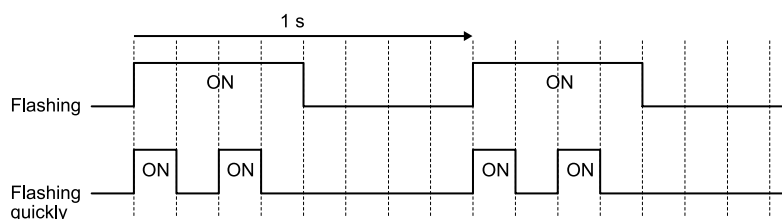

Figure 7.1 RUN LED Flashing Statuses
*1 Refer to Figure 7.1 for the difference between flashing and flashing quickly.